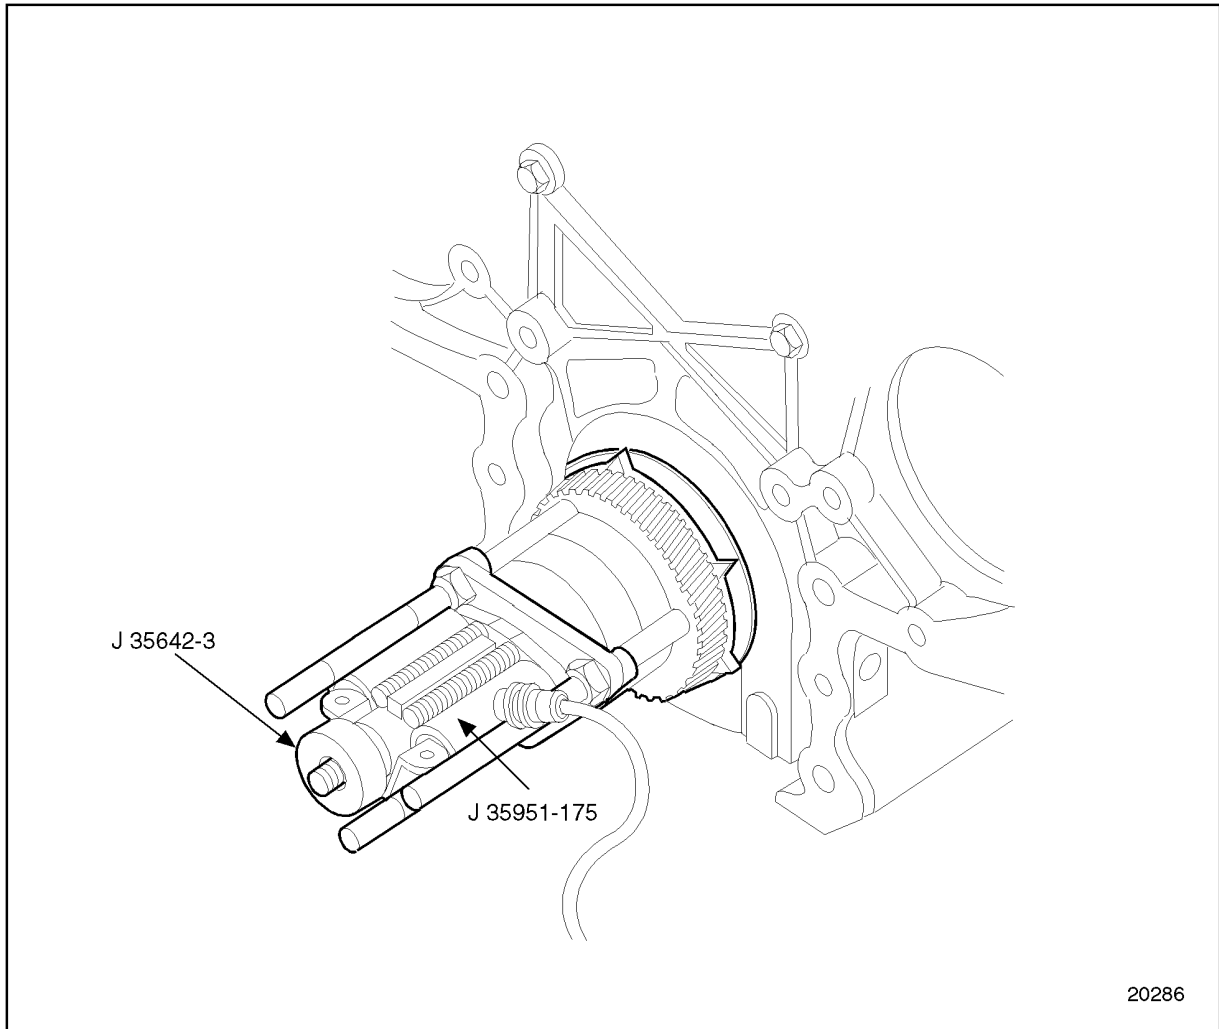

Figure 1-367 Crankshaft Timing Gear Installation Tools
8. Install the three retaining nuts to the puller legs. Thread the nuts past the first set of threads on the legs. Slide the nuts past the unthreaded portion of the shafts, and engage the second set of threads. Tighten but do not torque the retaining nuts. See Figure 1-367.
9. Install the hydraulic ram to the base post rod. See Figure 1-367.